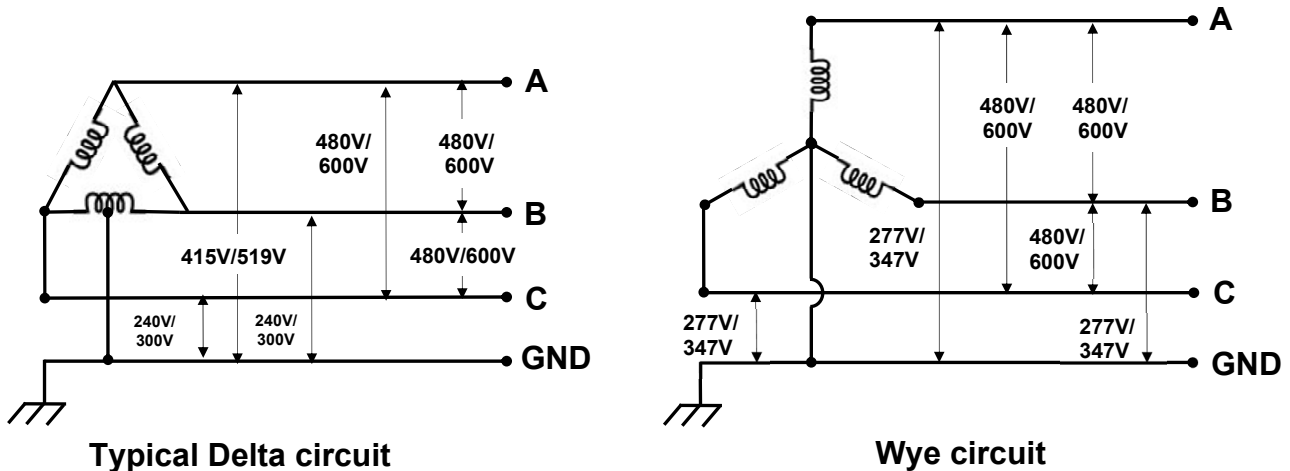

Figure 25: AC input wiring diagrams
1. The REVOLUTION chargers require a 480 VAC 3Ø, three-wire Wye or Delta electrical supply with a separate ground (Figure 25).